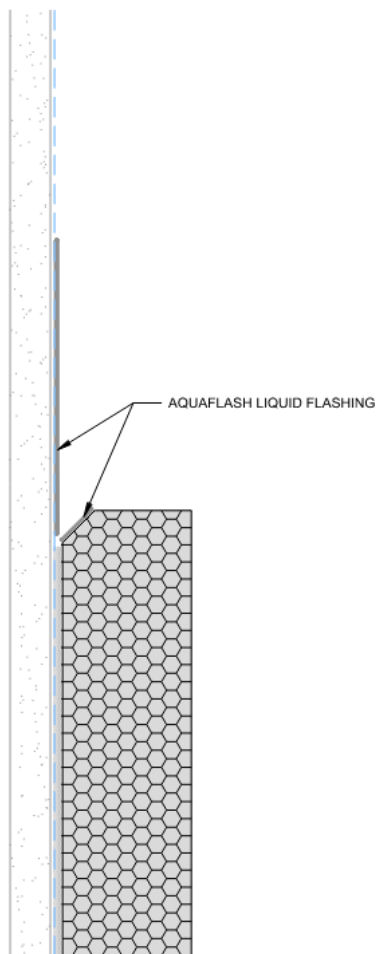

Figure 2
3. Using a brush or roller, apply AquaFlash liquid flashing to the wall substrate above the starter board and to the inside beveled edge of the starter board. Reference AquaFlash Data Sheet DS494 or DSC494. (See Figure 2)